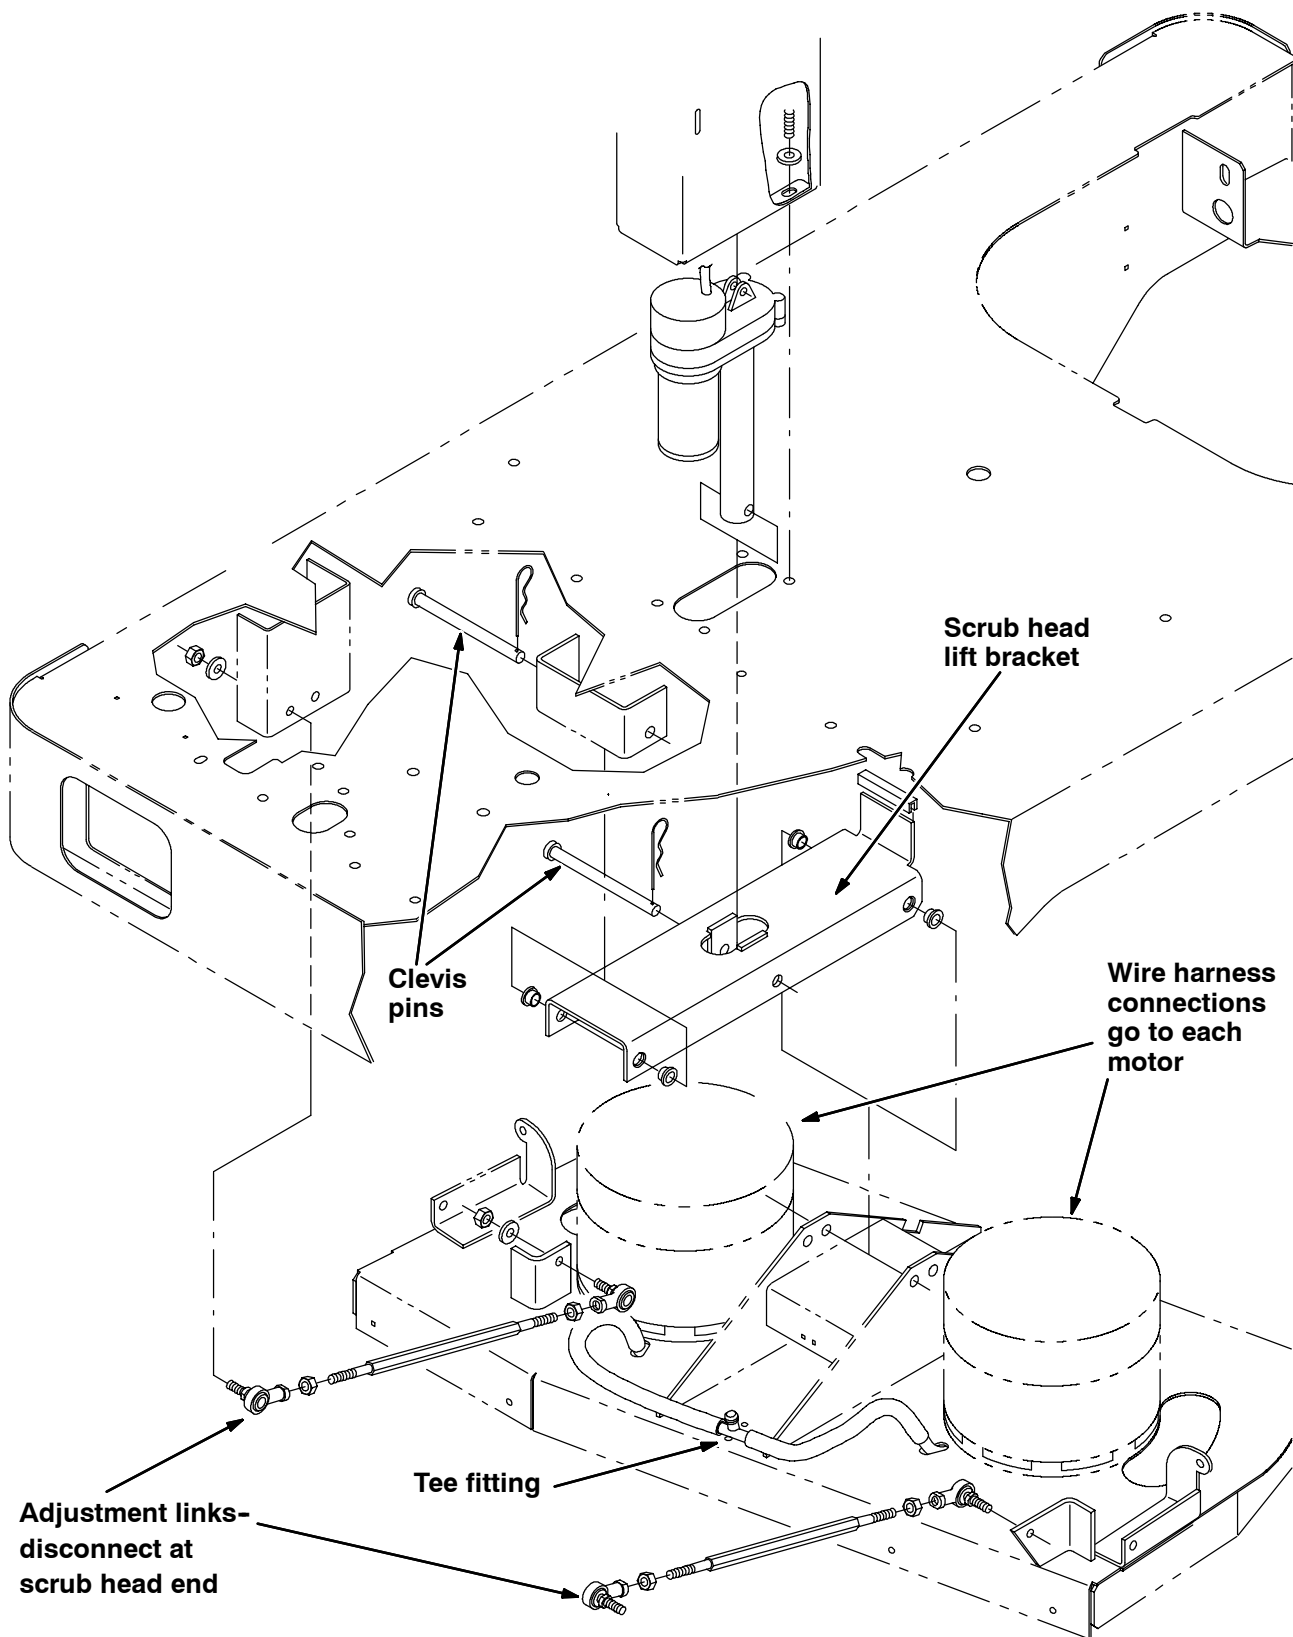

FIG. 2 - Disk Brush Scrub Head Installation
12. Install the clevis pins through the frame and actuator. *(Refer to FIG. 2)*
13. Connect wire harness connections. *(Refer to FIG. 2)*
14. Connect solution hoses to the tee fitting. *(Refer to FIG. 2)*
15. Connect the adjustment links. *(Refer to FIG. 2)*
5. Disconnect the scrub head adjustment links. *(Refer to FIG. 2)*
6. Remove the clevis pin from the scrub head lift bracket. *(Refer to FIG. 2)*
7. Disconnect wire harness connectors at the scrub brush motors. *(Refer to FIG. 2)*
8. Disconnect solution hoses from the tee fitting. *(Refer to FIG. 2)*